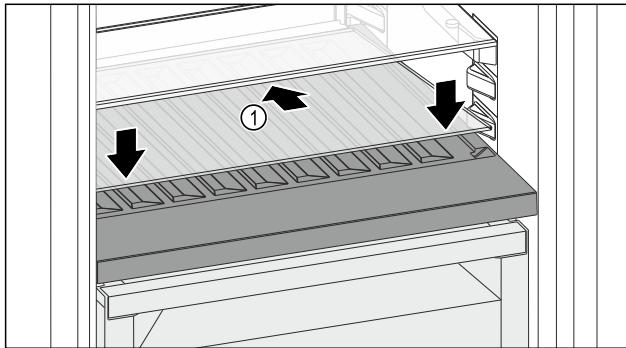

Fig. 105
- ▶ Place the glass shelf Fig. 105 (1) at an angle, sloping it downwards and backwards.
- ▶ Lower the glass shelf Fig. 105 (1) at the front.